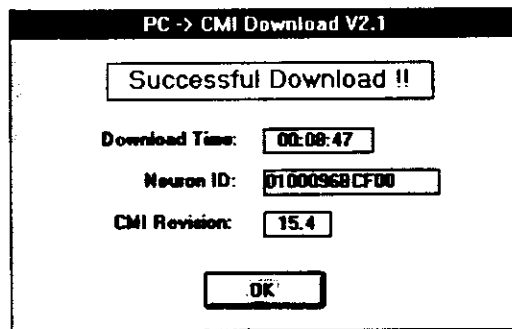

Figure 4-6. Successful Download Message
- i. When the software download to the CMI is complete, a "SUCCESSFUL DOWNLOAD" message will appear (Figure 4-6). Click the OK button to return to the main PC -> CMI Download V2.0 dialog.